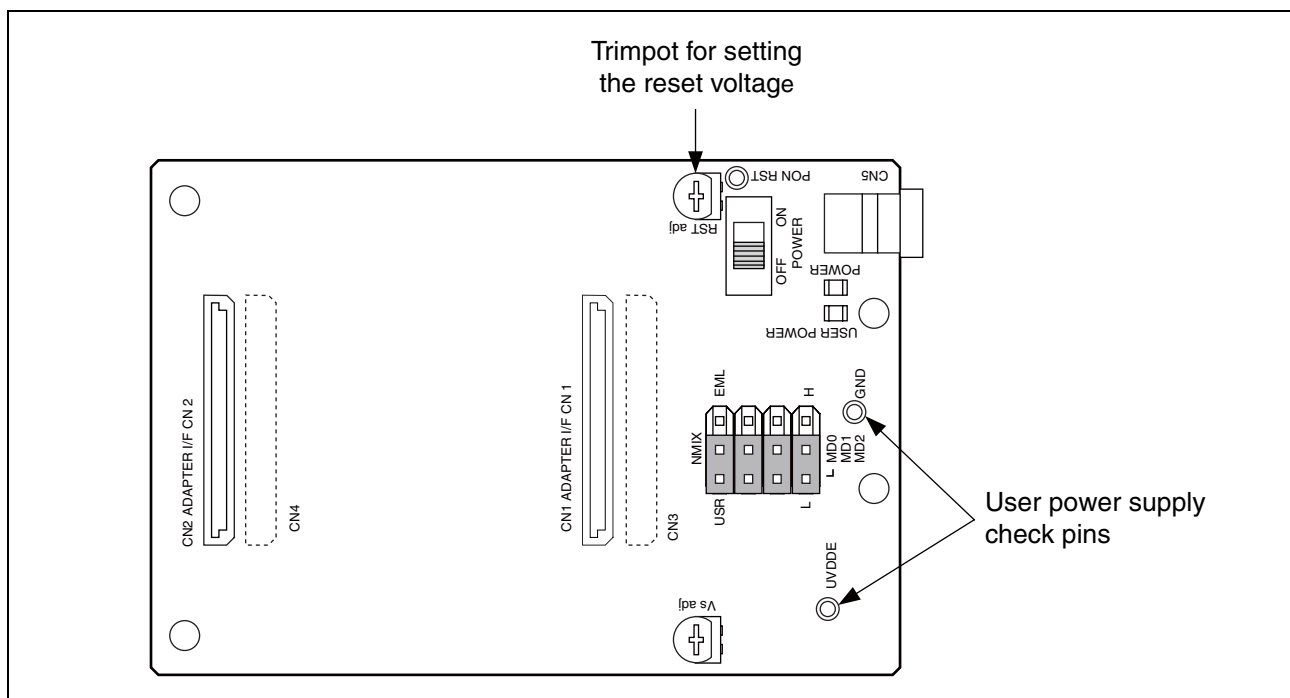

Figure 8 Locations for connecting the DC variable power supply unit
3. Connect a DC variable power supply unit to the user power supply check pin. Refer to Figure 8 for the positions of the user power supply check pin and GND check pin.
3. Rotate the knob on the trimpot for setting the reset voltage all the way to the right to set V_r to the maximum value. Check that the "USER POWER" LED is off at this time. Refer to Figure 8 for the position of the trimpot for setting the reset voltage.